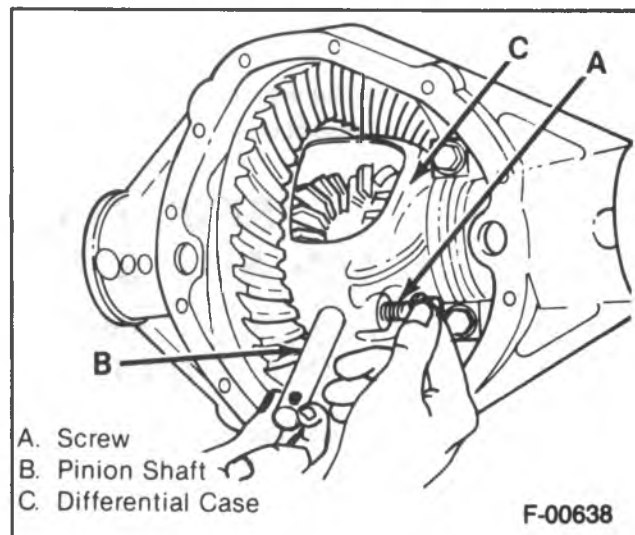

Figure 8 — Removing/Installing the Differential Pinion
5. Pinion shaft (B) (figure 8).
- Align the hole in the pinion shaft (H) with the screw hole in the differential case (C).
6. Screw (A) (figure 8).
- Screw (A) to 34 N·m (25 ft. lbs.).
8. Carrier cover (19).
9. Bolts (18) and clip (17).
- Bolts (18) in a crosswise pattern. Refer to "Specifications" at the end of this section.
10. Brake drum (10).